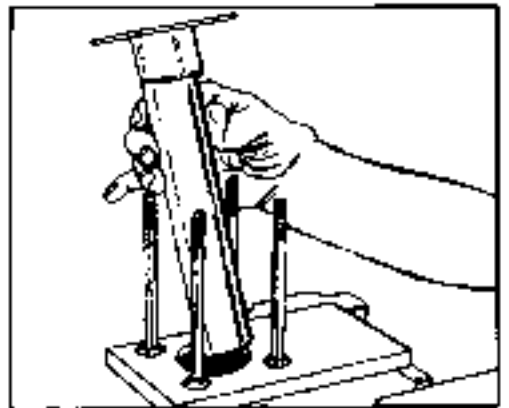

FIGURE 39.
48. Remove the upper cover and jacket tube assembly (37) and lay the assembly on the bench. See figure 39.